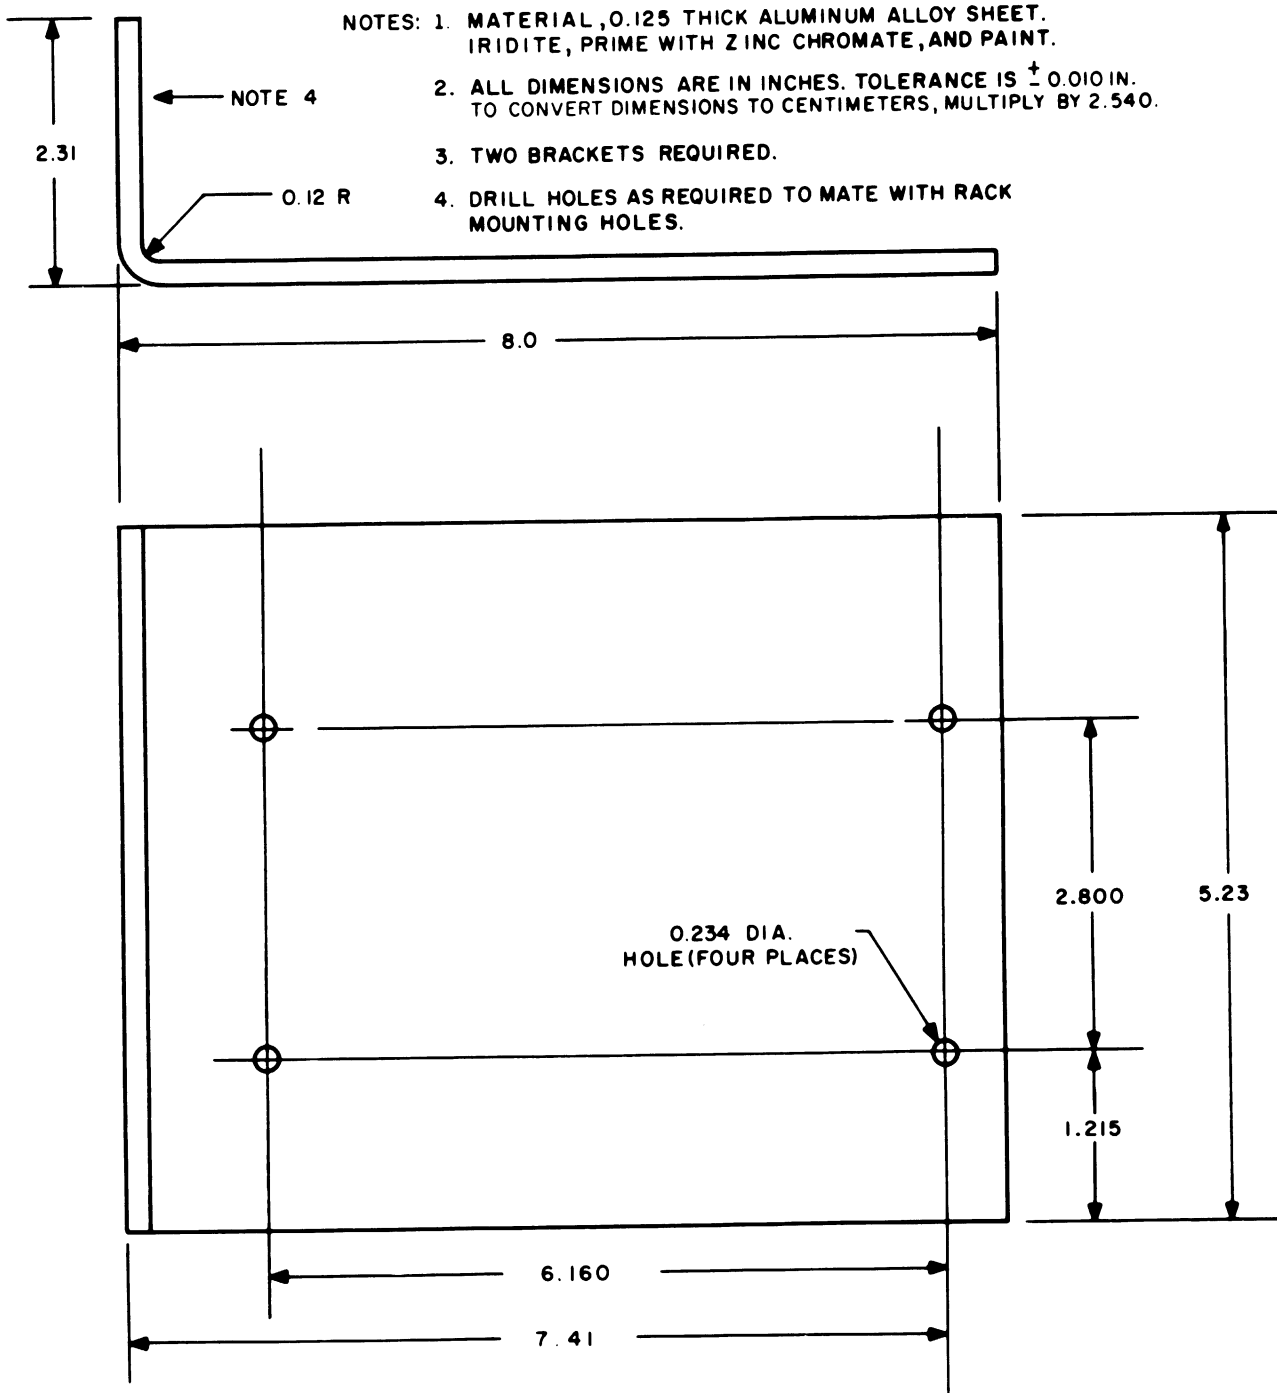

Figure 2.2. Rack Mounting Bracket, Fabrication Diagram
- (1) Fabricate the required rack mounting brackets using the information provided in figure 2.2.
- (2) Remove the stack mounting brackets from the RF-601A/C and return them to stock.
- (3) Attach the rack mounting brackets to the sides of the RF-601A/C using the hardware removed from the stack mounting brackets.
- (4) Slide the RF-601A/C into the rack and attach using the required hardware (supplied by the installing activity).